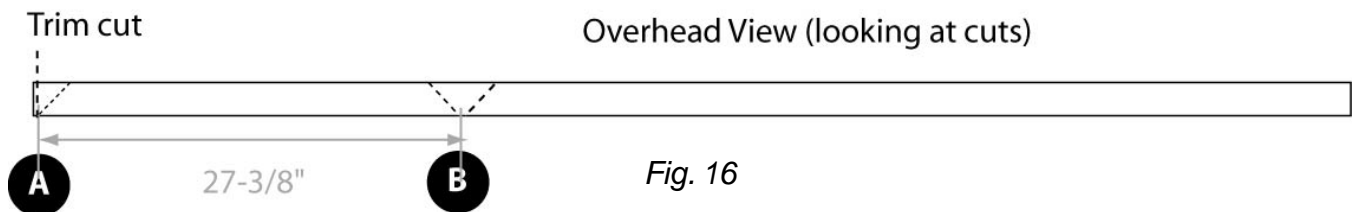

Fig. 16
4. If you haven't already made a test cut on scrap, cut one now to ensure you'll have no chipping. You will be cutting from the very top of the molding, down through the thicker part as the blade lowers (See Fig. 16).